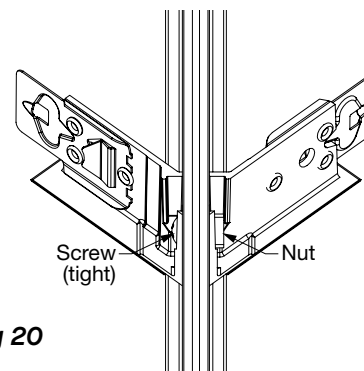

Fig 20
- Drive the screw in the first bracket until it pulls the two brackets tight against each other (**Fig 20**)